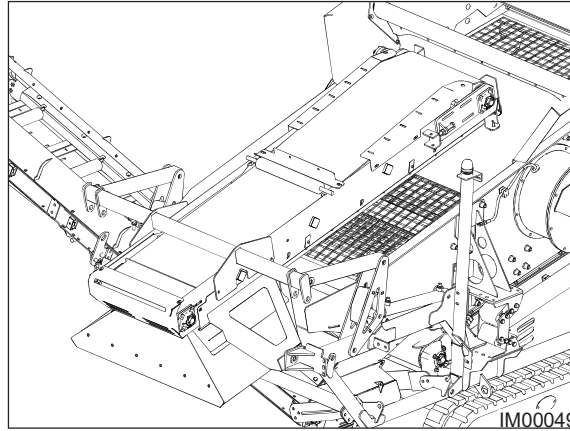

Fig: 10.4 - Oversize Conveyor
5. Once the conveyor has folded into the transport position (Fig: 10.4), release the control lever.